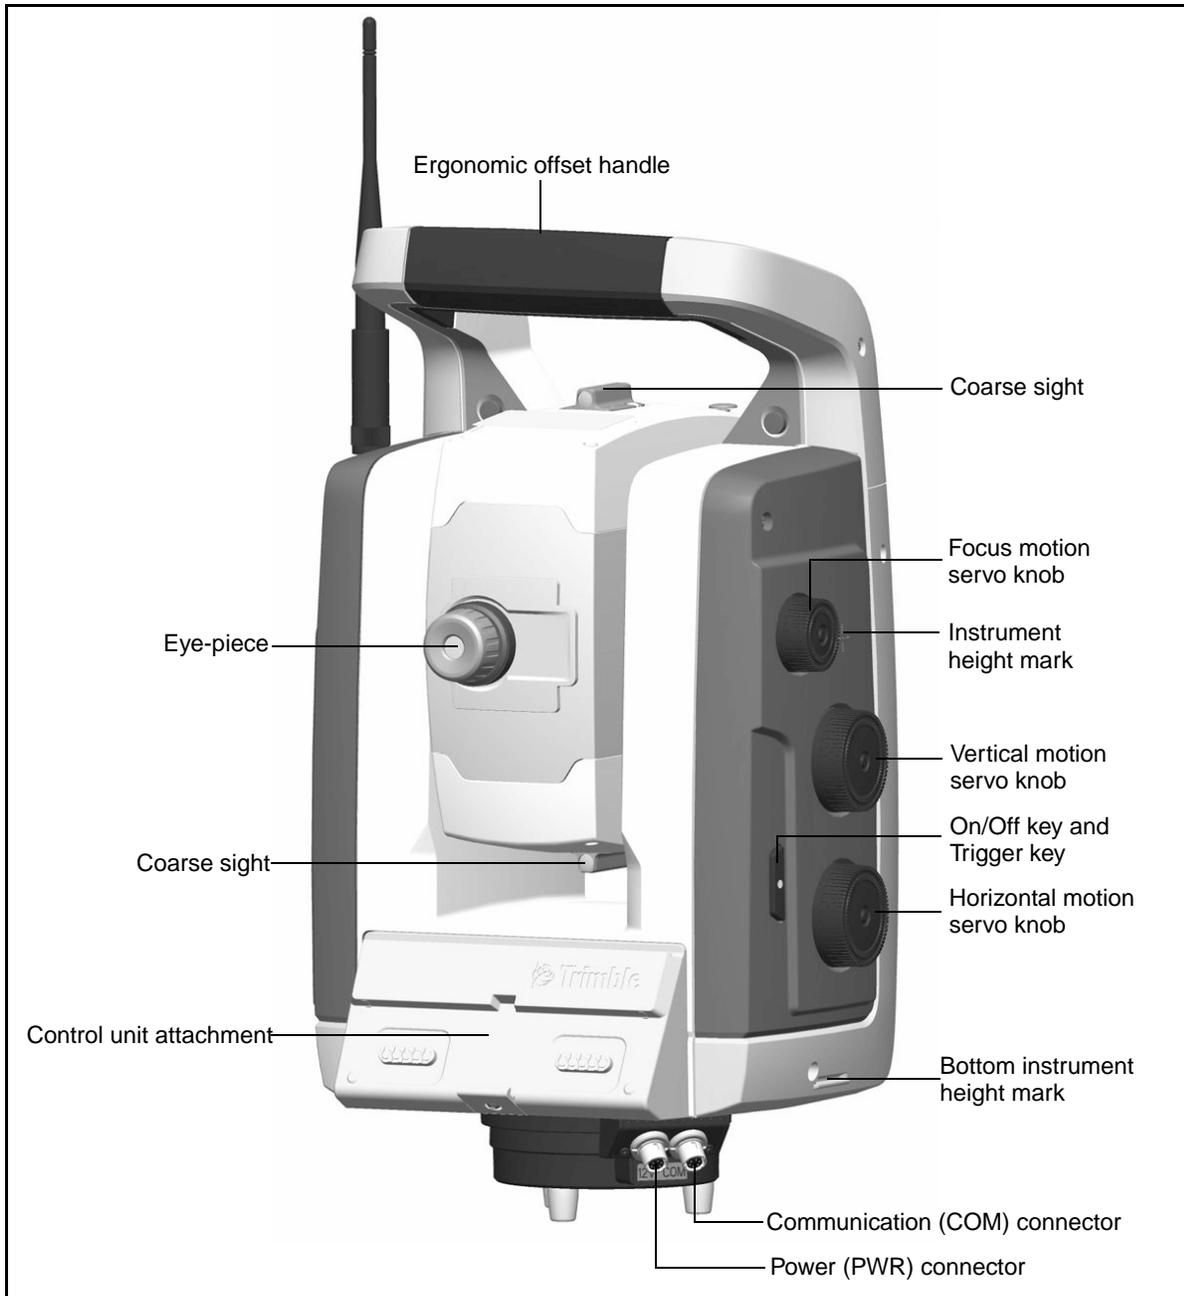
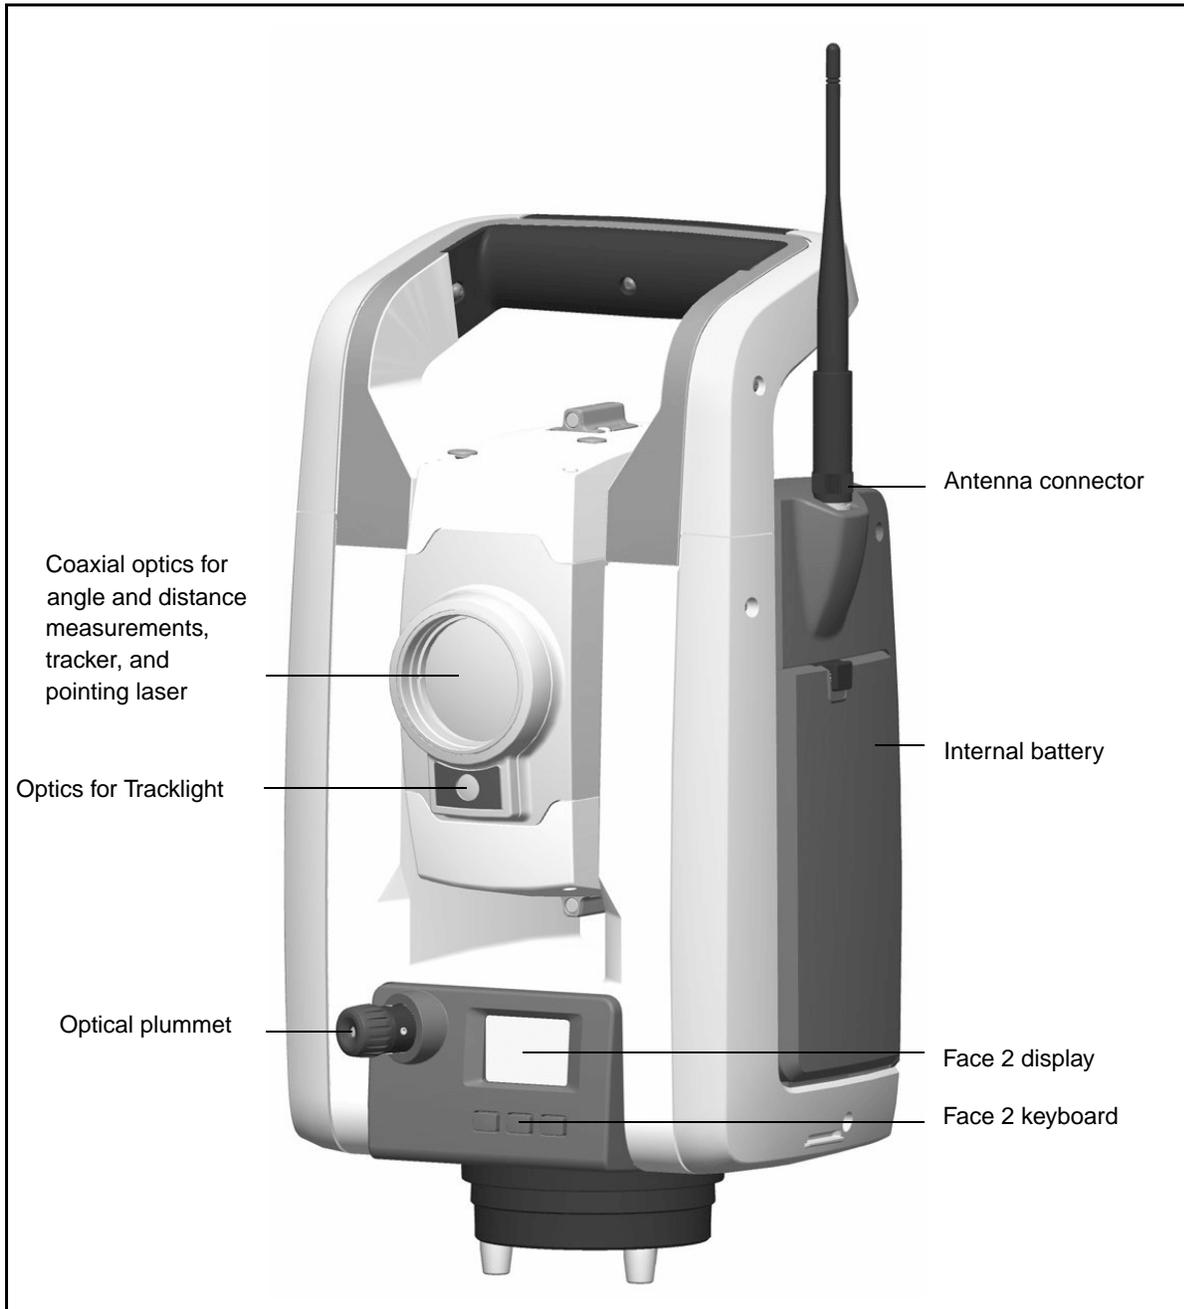

Figure 1.2 Trimble S6 total station face 1 position
Figure 1.3 Trimble S6 total station face 2 position
1. Begin with an introduction to the hardware features of the instrument. See Figure 1.2 and Figure 1.3.